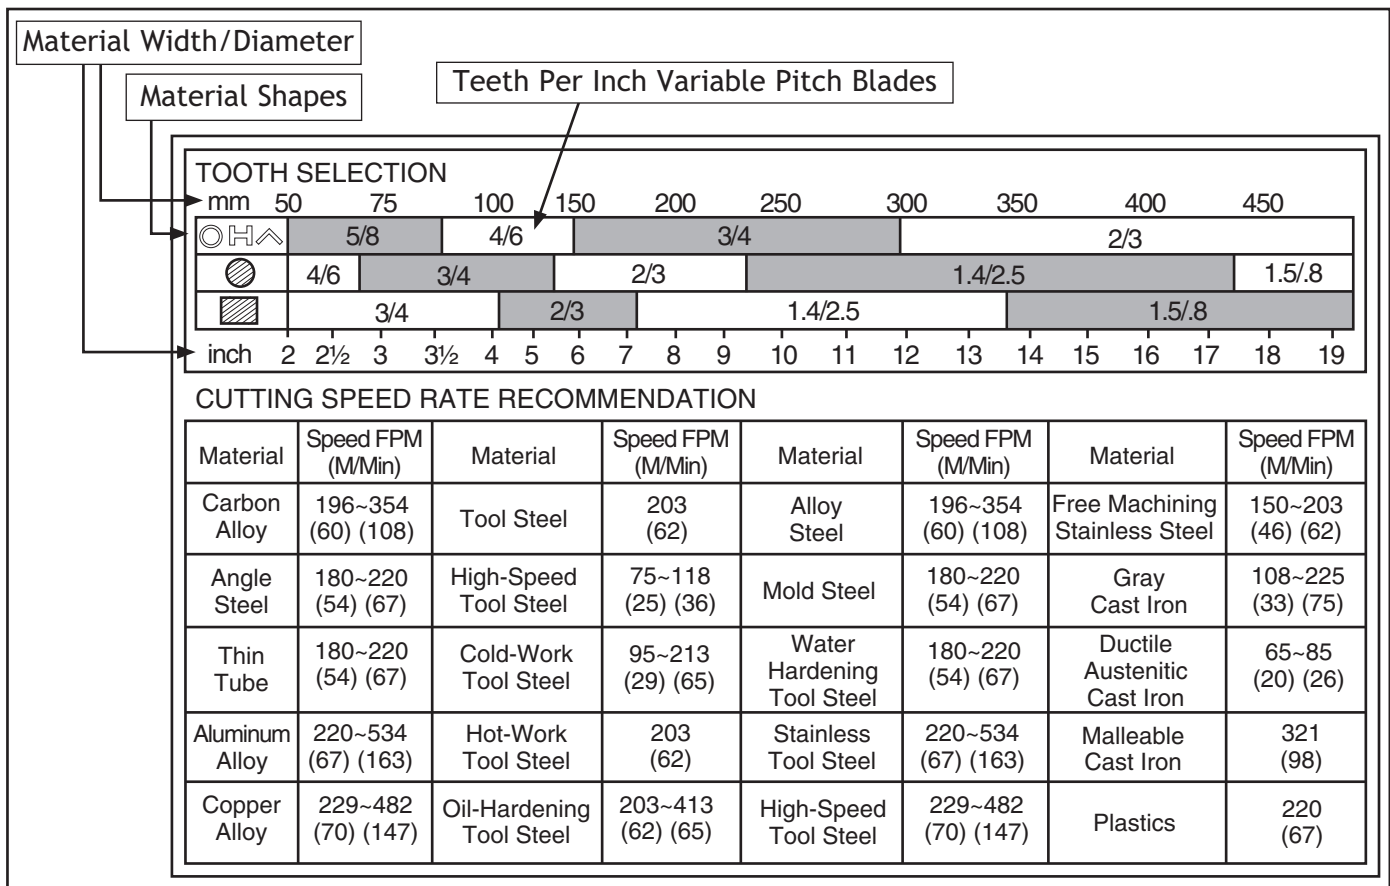

Figure 20. Model M1048 Blade selection and speed chart.
2. Refer to the "Material Width/Diameter" row of the blade selection chart in **Figure 20** and read across to find your workpiece thickness you need to cut.